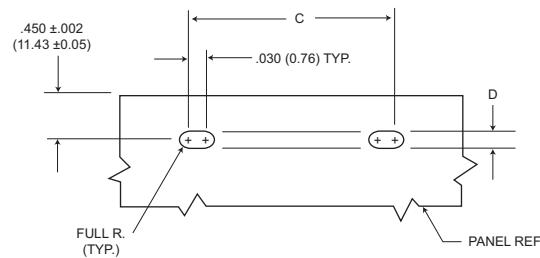

Figure 3
3. Edgeboard mounting bracket (figure 3) uses #2-56 screws. Dimension  $.450 \pm .002$  ( $11.43 \pm 0.05$ ) locates the MD receptacle flush with the end of the board.